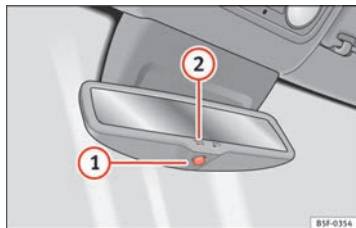

Fig. 78 Automatic* anti-dazzle interior rear vision mirror.
- Press button → Fig. 78 (1). The indicator lamp (2) turns on. The interior mirror will darken automatically when bright light (e.g. from the headlights of a following vehicle) shines on its.